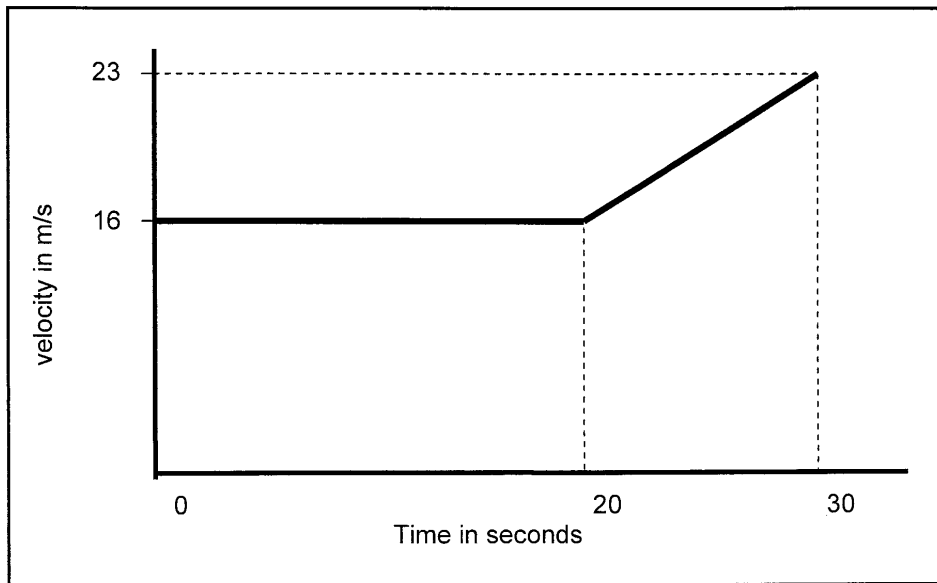

FIGURE 1
1.2 FIGURE 1 below shows a graph that shows the velocity of a vehicle with respect to time as the vehicle moves at 16 m/s for 20 seconds and then accelerates to 23 m/s over the next 10 seconds. Movement takes place in a straight line.